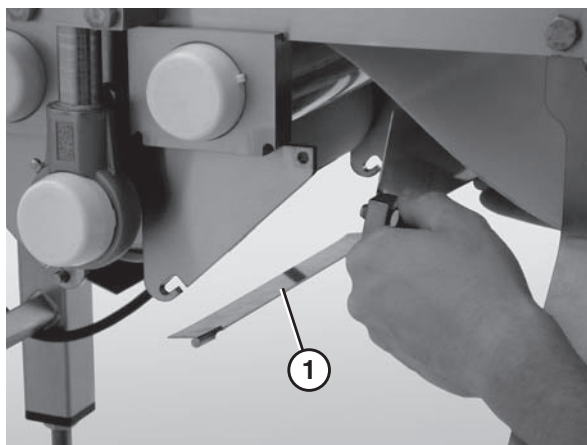

Figure 58
3. Lift up on the center drive guard (Figure 58, item 1) and remove it.